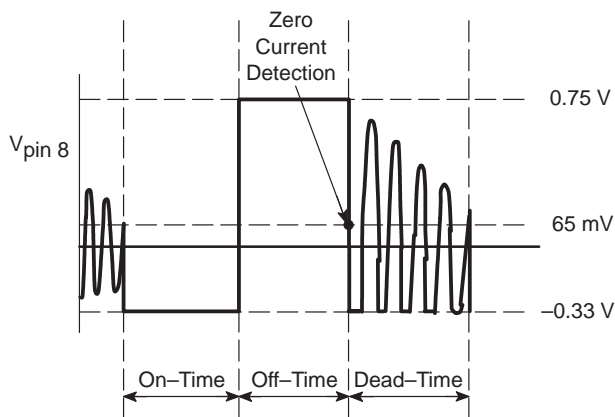
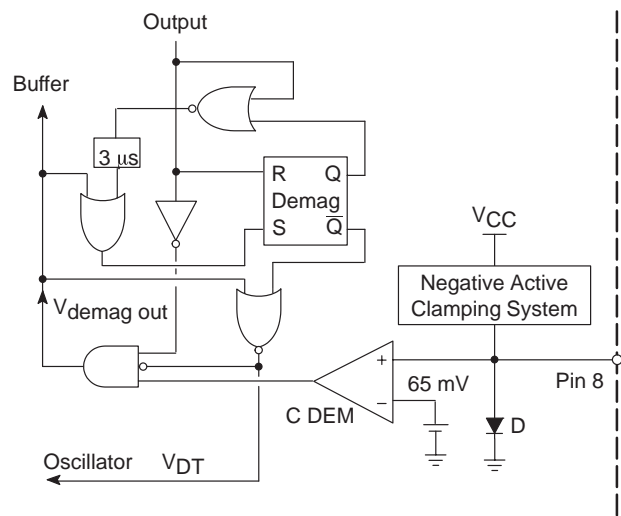

Figure 7. Demagnetization Detection
Figure 8. Demagnetization Block
- equal to zero for the dead-time with generally a ringing (refer to Figure 7).
A latch system is incorporated to keep the demagnetization block output level low as soon as a voltage lower than 65 mV is detected and as long as a new restart is produced (high level on the output (refer to Figure 8)). This process avoids that any ringing on the signal used on the pin 8, disrupts the demagnetization detection (refer to Figure 7). Finally, this method results in a very accurate demagnetization phase detection, and the signal V_{DT} drawn from this block is high only for the dead-time. Therefore, an oscillator re-start and so, a new power switch conduction is only allowed during the dead-time.
The demagnetization detection can be inhibited by connecting pin 8 to the ground but in this case, a timer (about $3 \mu\text{s}$) that is incorporated to set the latch when it can not be set by $V_{demagout}$, results in a minimum off-time (refer to Figure 8).